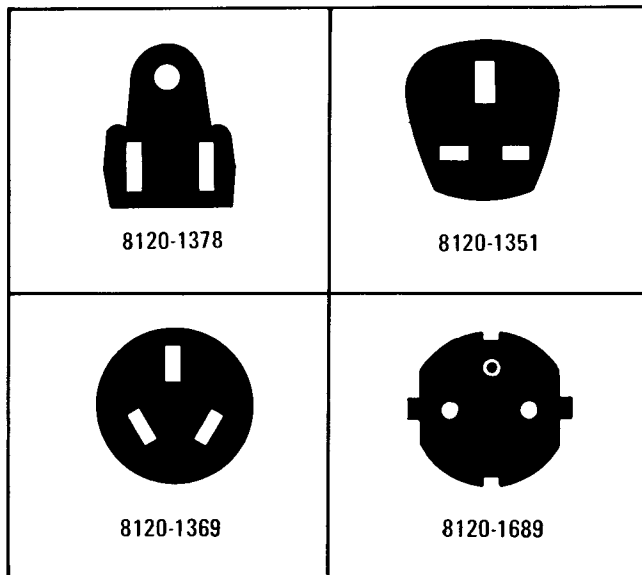

Figure 4. Power Cable HP Part Numbers Versus Mains Plugs Available
21. In accordance with international safety standards, this instrument is equipped with a three-wire power cable. When connected to an appropriate power receptacle, this cable grounds the instrument cabinet. The type of power cable plug shipped with each instrument depends on the country of destination. Refer to Figure 4 for the part numbers of the power cable plugs available.